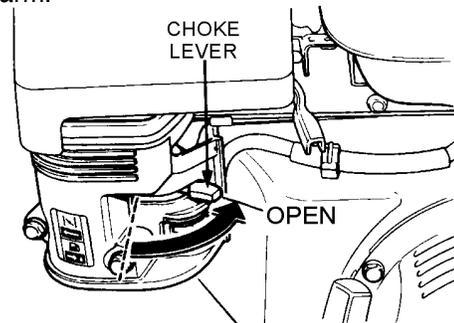

Figure 15. Engine Choke Lever (Open)
4. Place the choke lever (Figure 15) in the “OPEN” position if starting a warm engine or the temperature is warm.